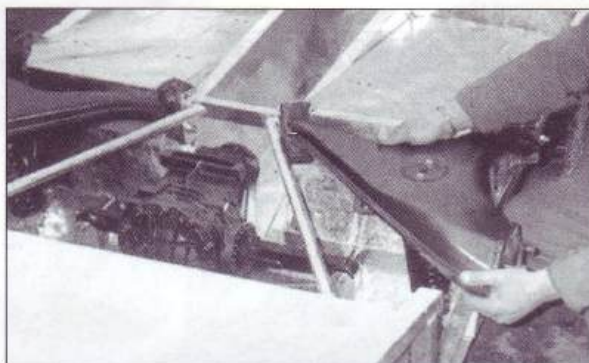

Fig.3h. Wishbones being fitted.
8. Offer the wishbone up to the chassis fixing points as shown in fig.3h. The outboard fixing has a choice of heights that enable rear camber angle to be adjusted. We suggest that you use the middle hole and adjust only if required.